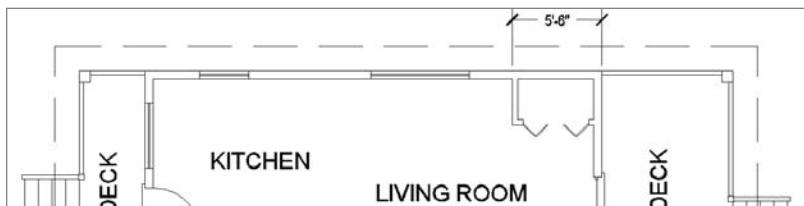

FIGURE 12.23 The result of zooming and panning for a view of the top of the floor plan
- Zoom out, and pan until you have a view of the upper wall and roof line, with space above them for dimensions (see Figure 12.23).